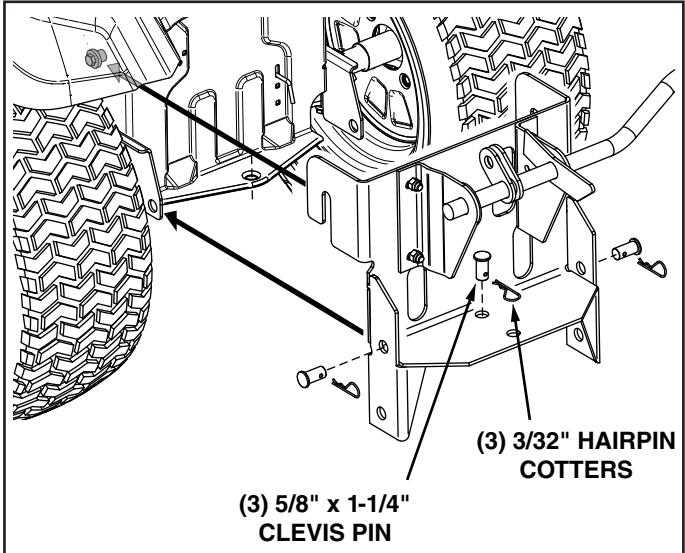

FIGURE 6
10. Hook the Sleeve Hitch onto the bolts in the sides of the tractor frame. Attach the Sleeve Hitch to the Hitch Support Brackets and to the bottom of the tractor hitch using three 5/8" x 1-1/4" clevis pins and 3/32" hairpin coppers. See Figure 6.